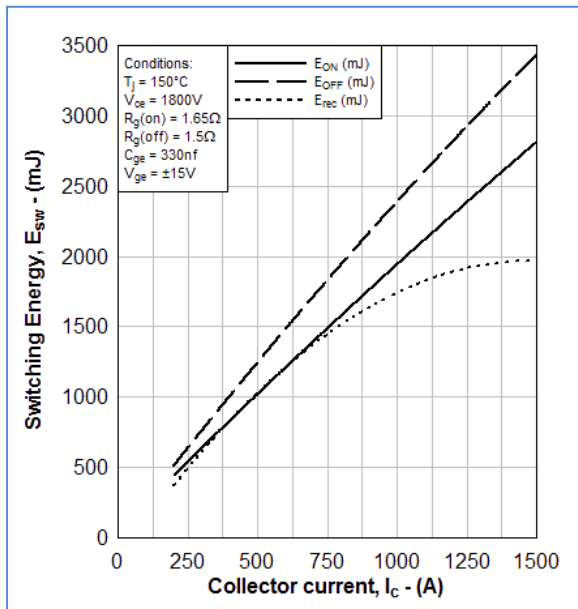

Figure 5: Typical switching energy VS collector current
- i) E_{ON} , E_{OFF} and E_{rec} Vs collector current see Fig. 5 and